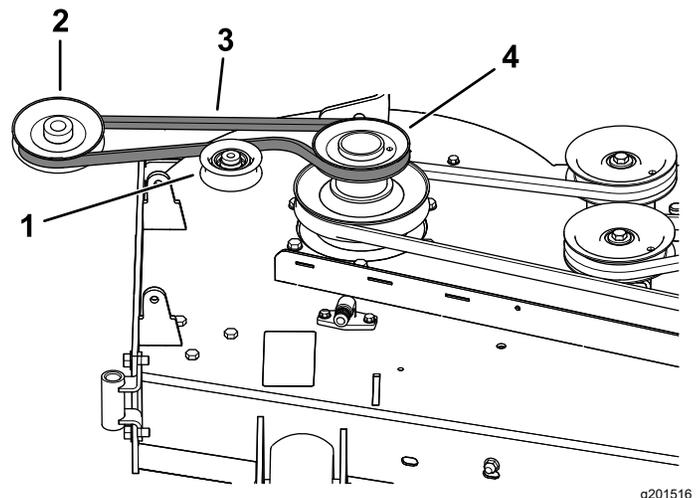
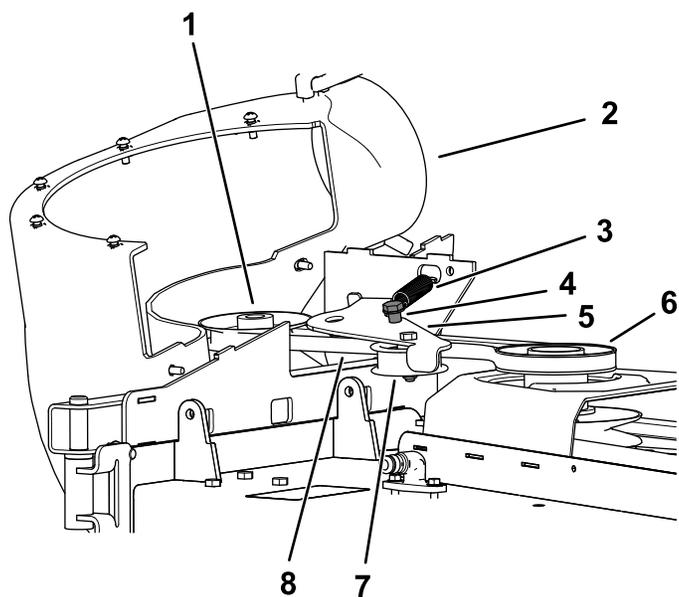

Figure 26
Figure 27
1. If necessary, install the belt onto the blower pulley (Figure 26).
1. Install the belt around the blower pulley (Figure 26 and Figure 27); refer to 11 Installing the Blower Assembly (page 16).
3. Pull the spring loaded idler pulley away from the fixed spring post, and route the belt around the mower deck pulley (Figure 27).
4. Route the belt around the drive pulley as illustrated in Figure 26 and Figure 27.